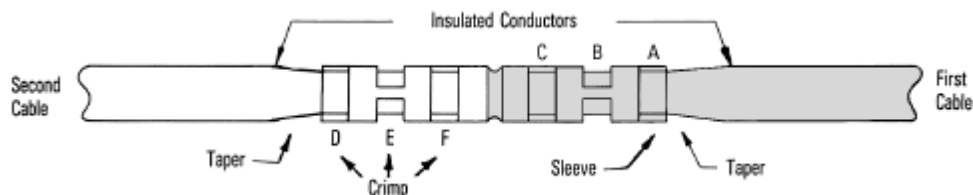

Figure 5-25: Splicing sleeve installation
16. Use a crimping tool (nicopress tool) to place crimps in the sleeve. Refer to Figure 5-25. Place a crimp at position **A**. Rotate the crimping tool 90 degrees and place a crimp at position **B**. Rotate the crimping tool 90 degrees and place a crimp at position **C**.